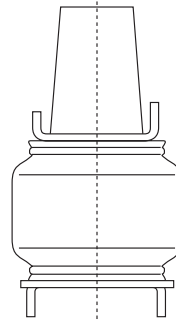

fig. 9
5. Align the upper bracket forward or back, ensuring that the upper and lower brackets are lined up evenly with the air spring (Fig. 9).
1. In a similar fashion to the upper bracket alignment, carefully move the bottom bracket inward and outward so as to align it to the air springs and upper bracket (Fig. 9).